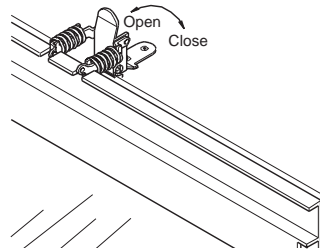

Figure 42 - Removing Glass Door
3. To open the glass door, open the pairs of latches located on the top and bottom of the firebox (see Figure 42). *Note:* Use caution when opening these latches.